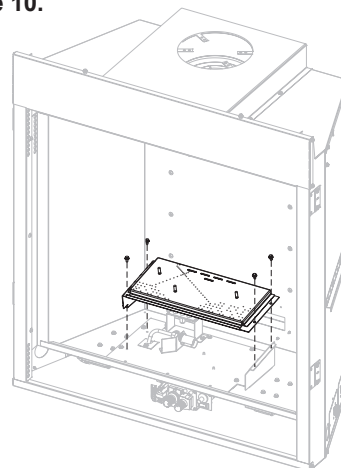

Figure 10
7. Remove the four screws securing burner and slide to right then lift burner off. Retain burner and screws for reassembly. **See Figure 10.**
16. Reinstall the burner and four screws removed in step 7. **See Figure 10.**